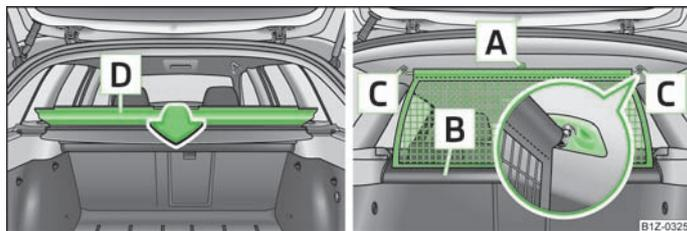
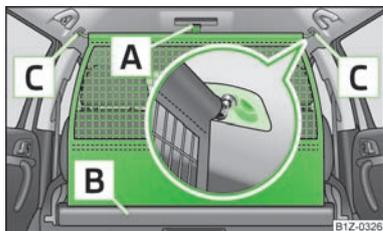

Fig. 59 Folding down the storage compartment cover/pulling out the net partition
Fig. 60
- Ensure that the cross rod is inserted into the mounts **C** » Fig. 59 or » Fig. 60 in the front position!
- Fold down the storage compartment cover **D** » Fig. 59 behind the rear seats.
- › Pull the net partition by the bracket **A** » Fig. 60 out of the housing **B**.
- › First pull the cross rod back slightly on the one side and then on the other side and remove it from the mounts **C** » Fig. 60.